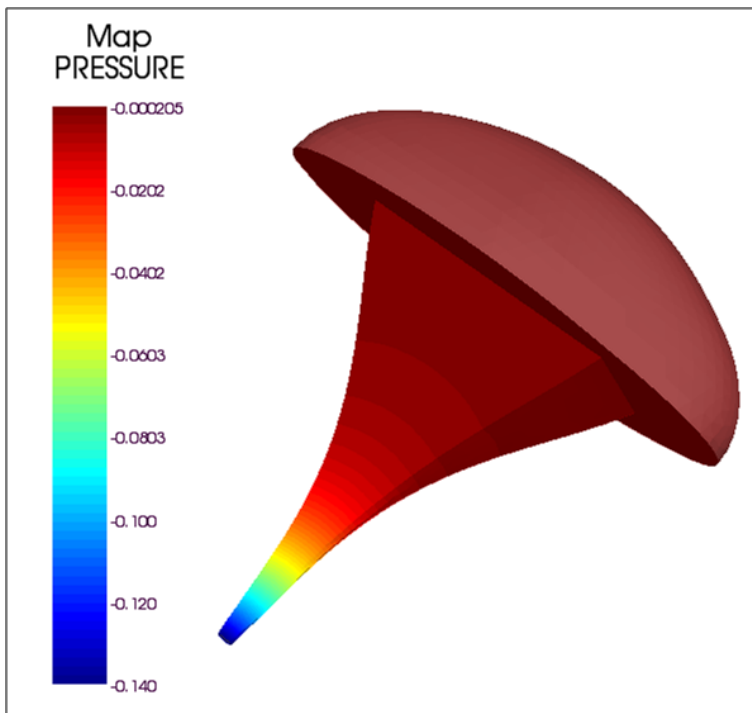

Figure 6.51: The pressure results plotted in the Render window
- Left-click on *Apply*, the real part of the pressure is plotted in the *Render window* (Figure 6.51).